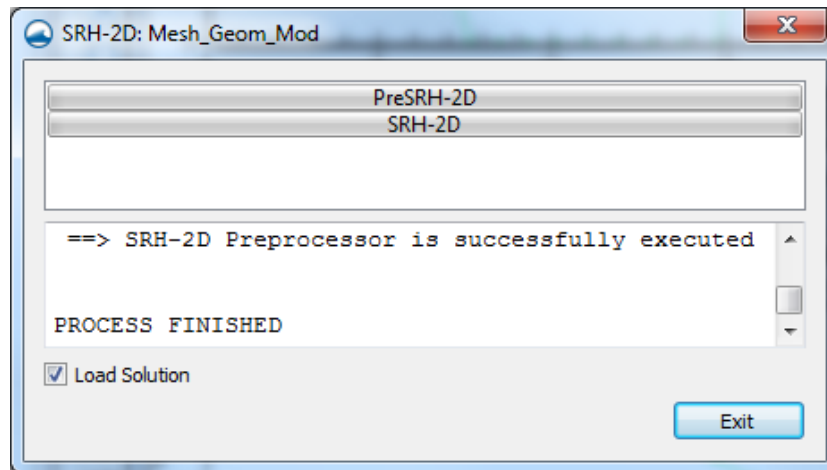

Figure 8. SMS Model Wrapper
4. Toggle on *Load Solution*, as shown in Figure 8, and click **Exit** to close the SMS model wrapper. The solution datasets will now be listed in the Project Explorer under “Gila_Mesh”.